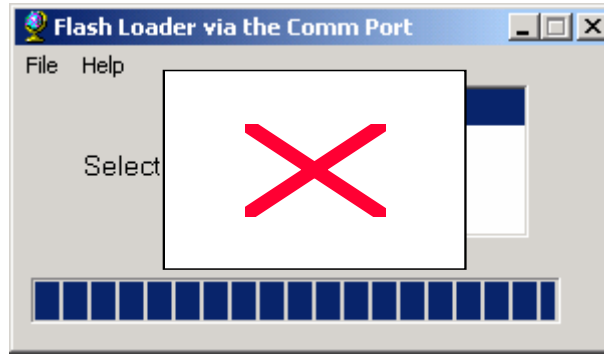

Figure 1-6: Flashloader File Dialog Box with Download Complete
- 9) After selecting the desired object file, click on the Open button. This will start the download process, indicated by blue rectangles appearing in the progress bar on the bottom side of the dialog box. Completion of the download is indicated by the dialog boxes shown in Figure 1-6.